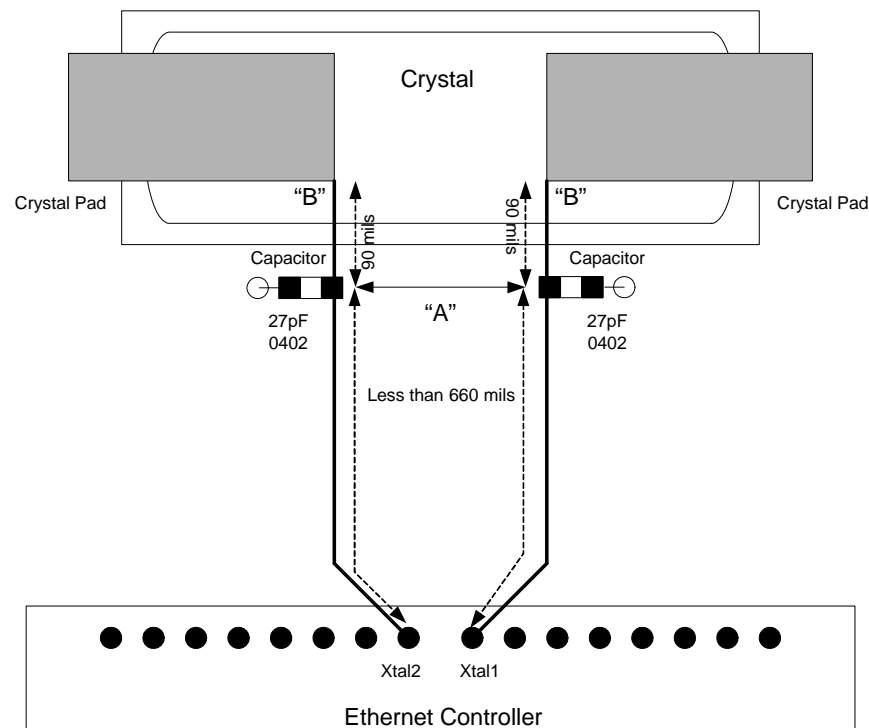

Figure 70. Recommended Crystal Placement and Layout
Figure 70 shows the recommended placement and layout of an internal oscillator circuit. Note that pin X1 and X2 refers to XTAL1 and XTAL2 in the Ethernet device, respectively. The crystal and the capacitors form a feedback element for the internal inverting amplifier. This combination is called parallel-resonant, because it has positive reactance at the selected frequency. In other words, the crystal behaves like an inductor in a parallel LC circuit. Oscillators with piezoelectric feedback elements are also known as "Pierce" oscillators.
- Place load capacitor solder pad directly in line with circuit trace (see Figure 70, point A).
- Route XTAL1 and XTAL2 traces to nearest inside corners of crystal pad (see Figure 70, point B).